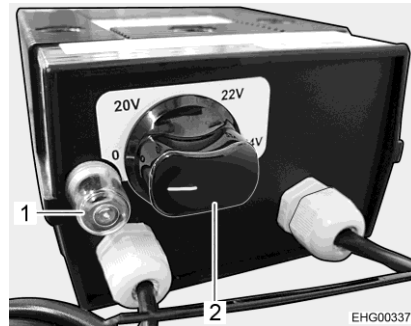

Fig. 142 Regulator for electrical floor warming unit
- Turn the control knob (Fig. 142,2) to the required heating level.
- Turn control knob (Fig. 142,2) to "0" position.
If the regulator is overloaded, the overload protection is actuated. The pin (Fig. 142,1) jumps out.
- Press the pin (Fig. 142,1) on the overload protection when the regulator is cooled.